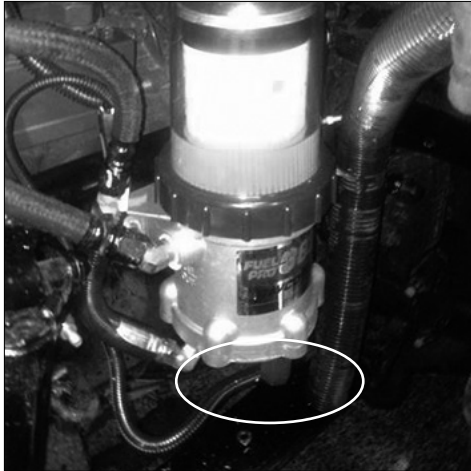

Figure 6: Disconnect Return Fuel Line
Step 1: Disconnect the return fuel lines at the heater base on the bottom of the Fuel Pro 382/383 (Figure 6).